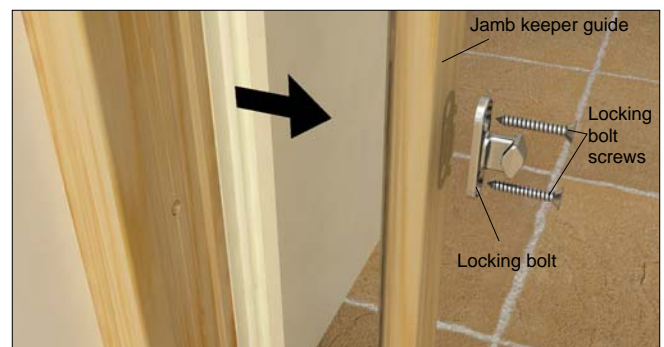

Figure 9
1. For bi-parting doors proceed to step 3. Remove locking bolts and jamb keeper guide. See figure 9.